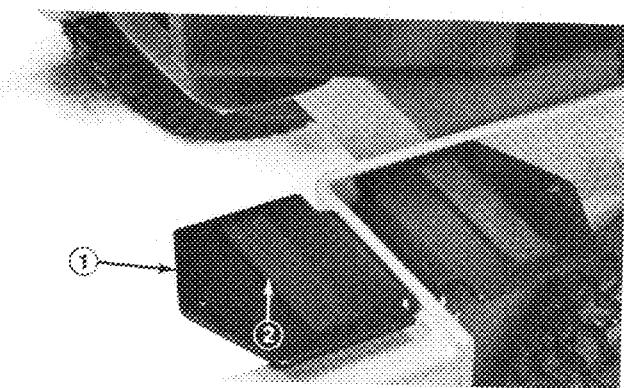

Figure 6
## INSTALL BATTERY (Fig. 6 & 7)
1. Mount battery holders to left rear corner or cutting unit carrier frame with (2) 3/8-16 x 1-3/4" lg. capscrews and locknuts.
2. Peel off backing from battery pads and affix pads to battery holder, positioning as shown in Fig. 6. Rubber battery pads should be centered on battery holders.